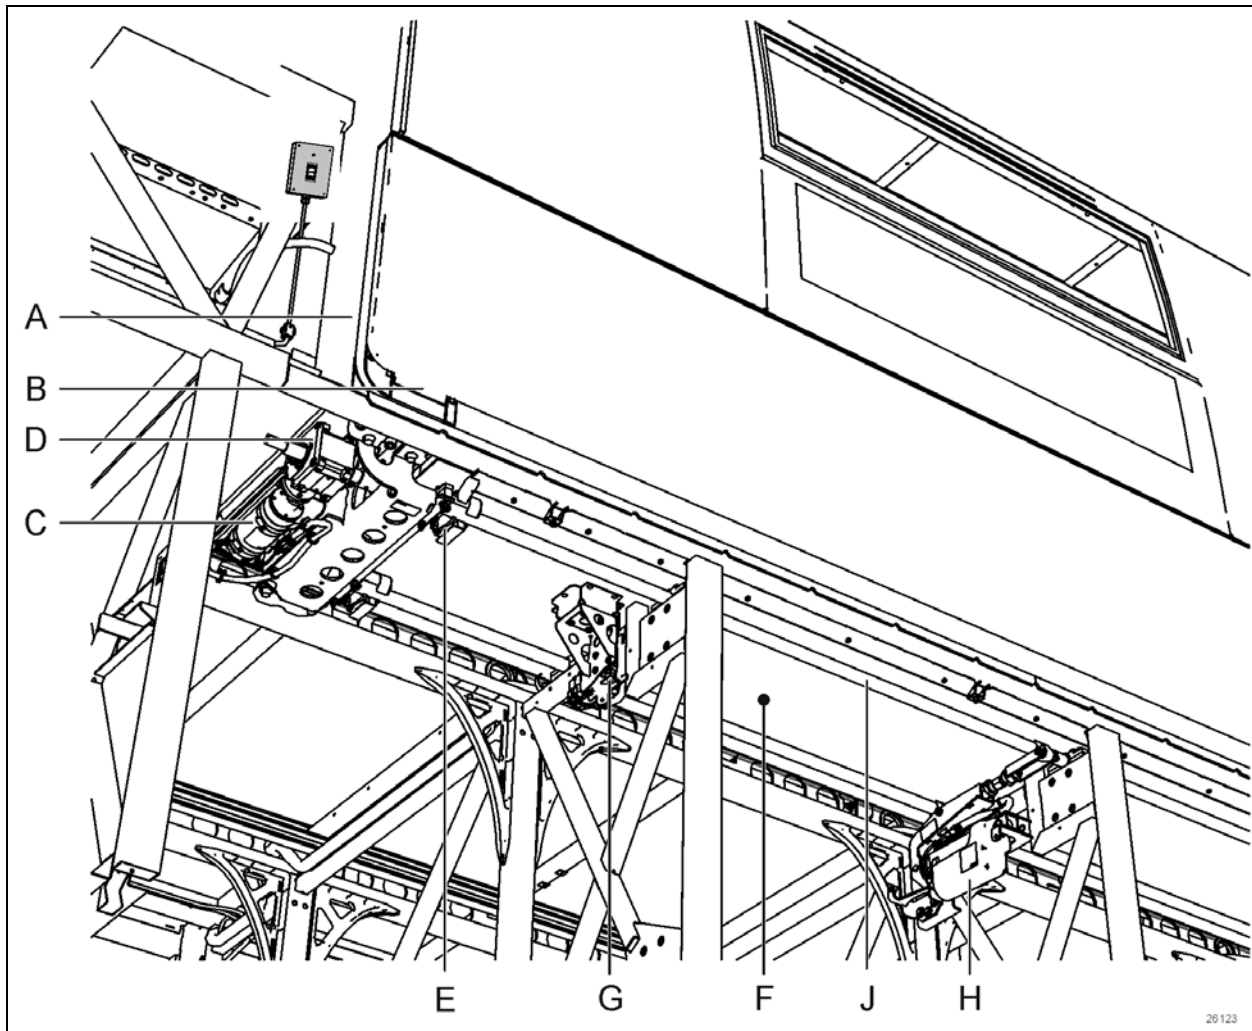
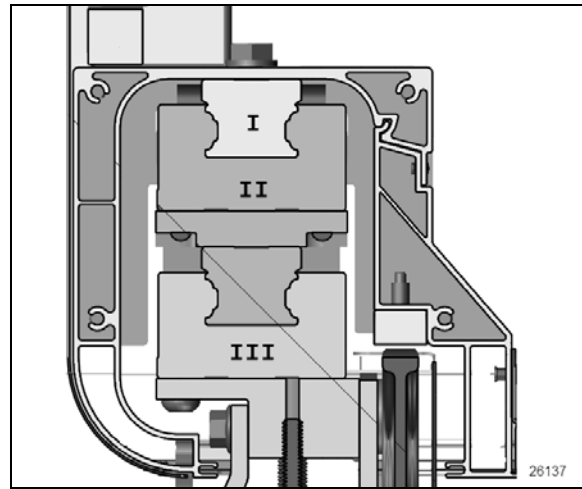

FIGURE 45: FLUSH FLOOR SLIDE-OUT MECHANISM OVERVIEW
FIGURE 50 LINEAR BEARINGS
Refer to images Figure 45 to Figure 50 above for the following descriptions.
The slide-out room is moved in and out on a pair of stacked linear bearings (Figure 50, Items I and III). Power comes from two synchronized electrical motor (C) oriented horizontally under each linear bearing assembly. The motor drives a right angle speed reducing gearbox (D).
Extension bearings and rail assemblies are stacked in pairs (Figure 50). The slide-out room structure is attached to the top rail (I). The top bearing is attached to the bottom rail (II). The bottom bearing is attached to the vehicle structure (III).